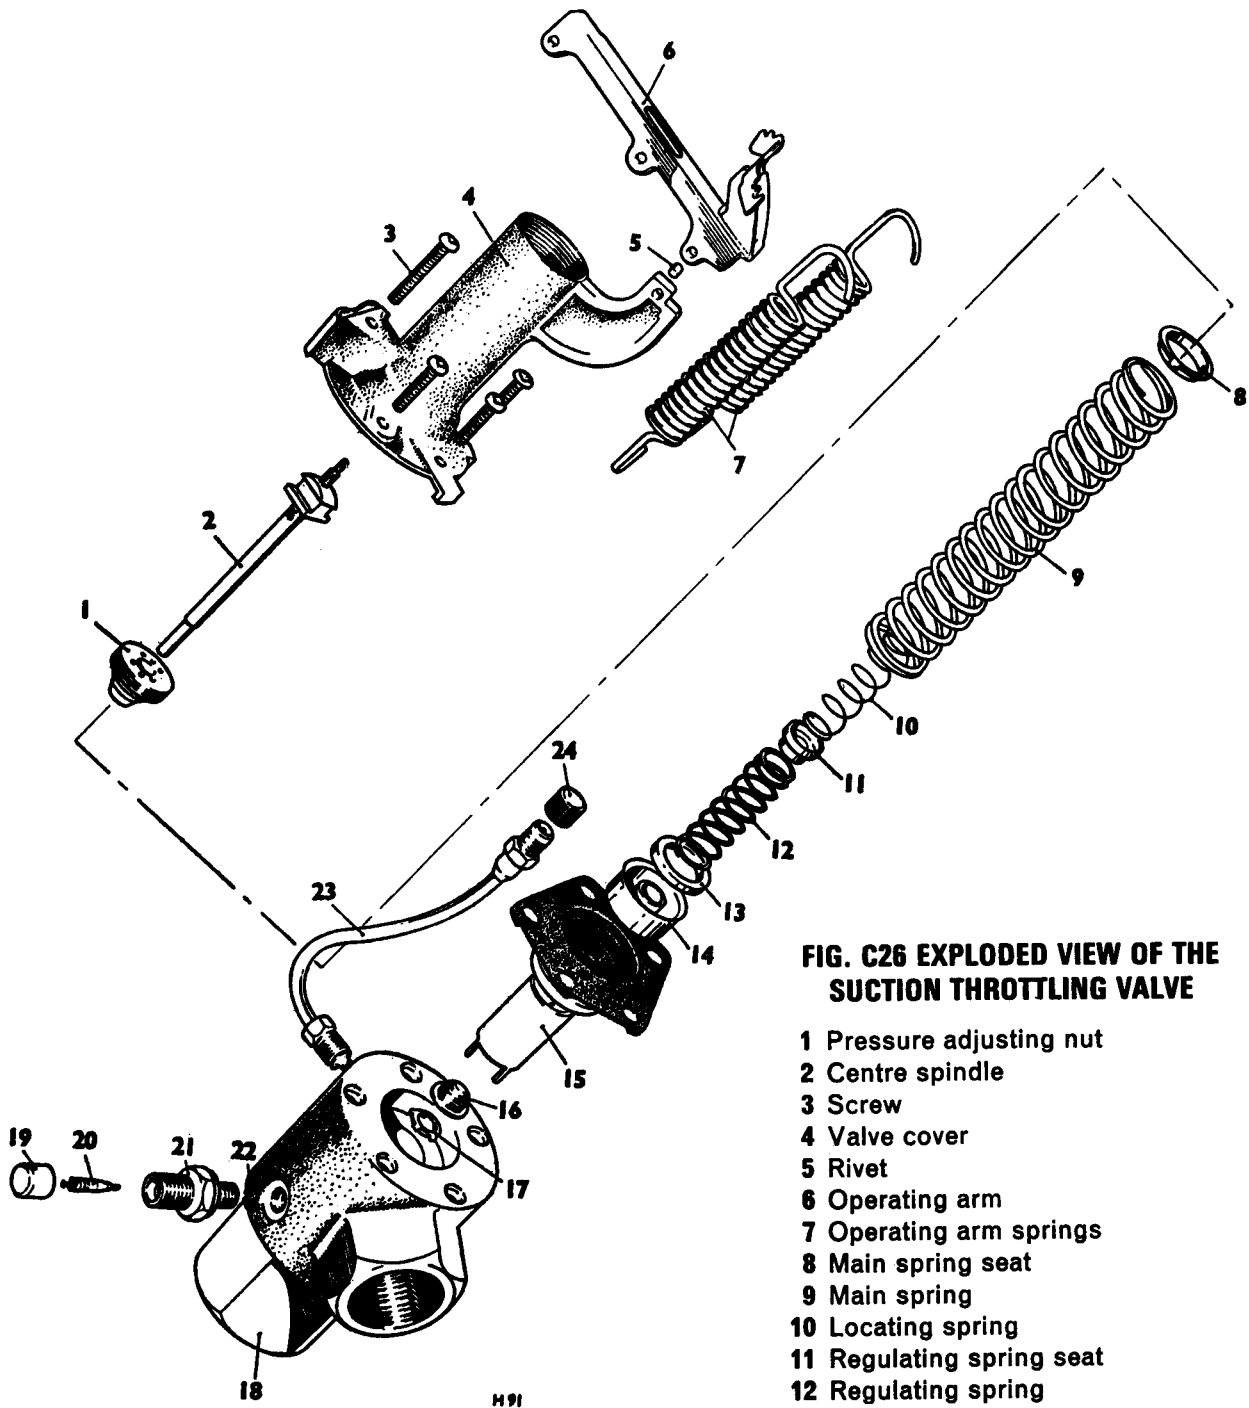

FIG. C26 EXPLODED VIEW OF THE SUCTION THROTTLING VALVE
★ Suction throttling valve—To dismantle (see Fig. C26)
(see Fig. C26)
3. Assemble the main spring upper seat, main spring, locating spring, regulating spring seat, regulating spring, spacing washer and main spring lower seat into the valve cover in this sequence (see Fig. C26), holding the assembled parts together; ensure that the spindle in the cover passes through the centre of the springs and seats.